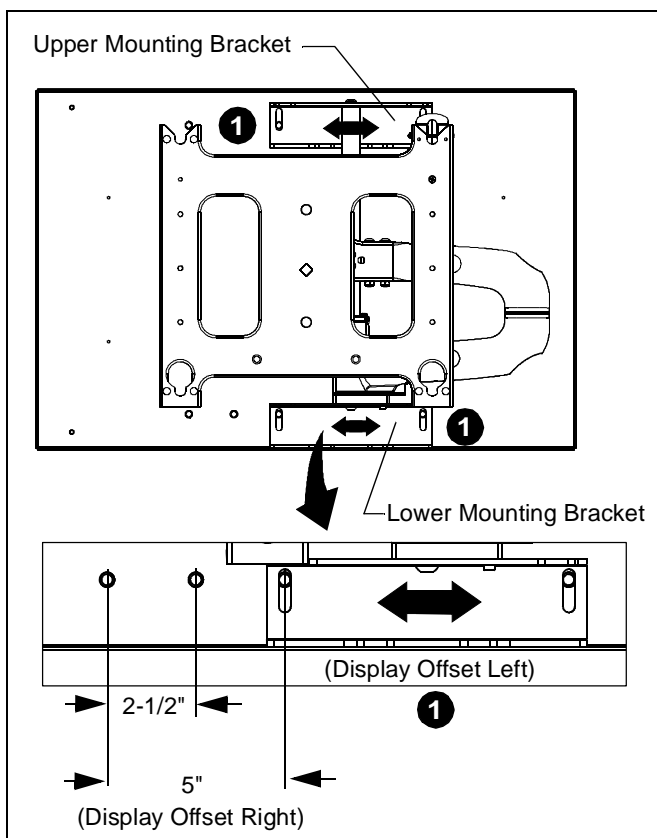

Figure 1
The PAC501 is designed to accommodate up to 5" of right or left display offset. This is accomplished by aligning the upper and lower mounting brackets on the PWRIW with either the right hand or left hand mounting holes in the PAC501. (See Figure 1)
1. Align mounting holes in swing arm UPPER and LOWER mounting brackets with four mounting holes in PAC501. (See Figure 1)